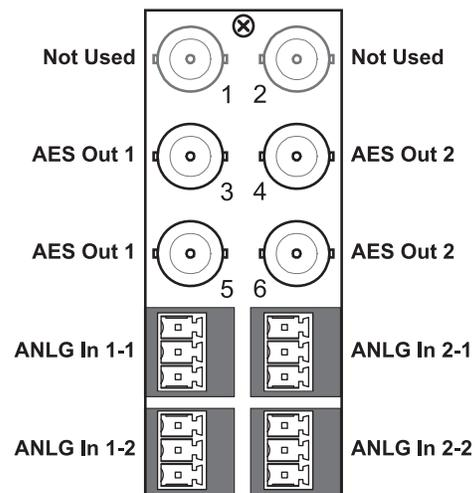

Figure 6 Cabling for the 8320AR-036A
- **8320AR-036A** — Each module occupies two slots and accommodates one card. This rear module provides four 75ohm AES/EBU outputs, and one stereo analog audio input. Refer to **Figure 6**